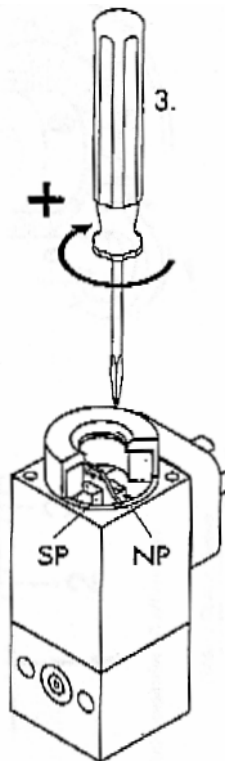

Fig 4. Adjustment of zero and span
- 2) Adjust the "span" screw see **Fig 4**, to change the value of the electrical signal according to the pressure measurement area.